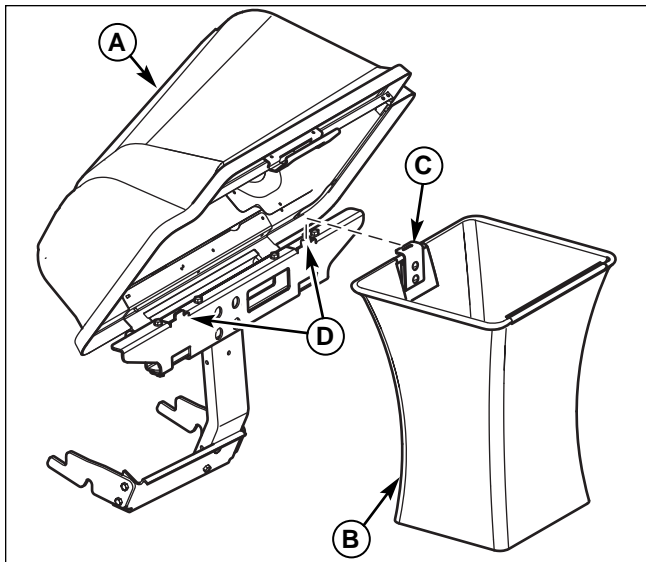

Figure 10. Install Collector Bags
1. Raise the cover (A, Figure 10).
2. Attach collector bags (B) using grass bag hanger (C) to bag hanger post (D).
3. Remove and empty bags (E, Figure 10).